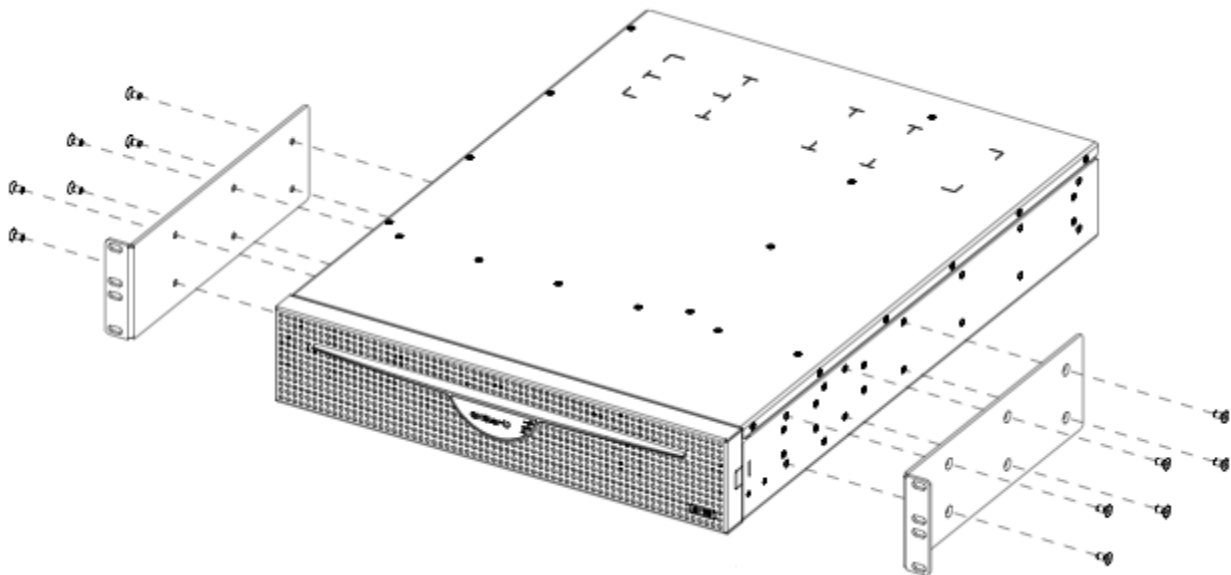

Figure 3-1 Attaching Mounting Ears to Cougar
Step 2: Install the mounting ears with six 10-32 x 3/8" screws to each side. See Figure 3-1.